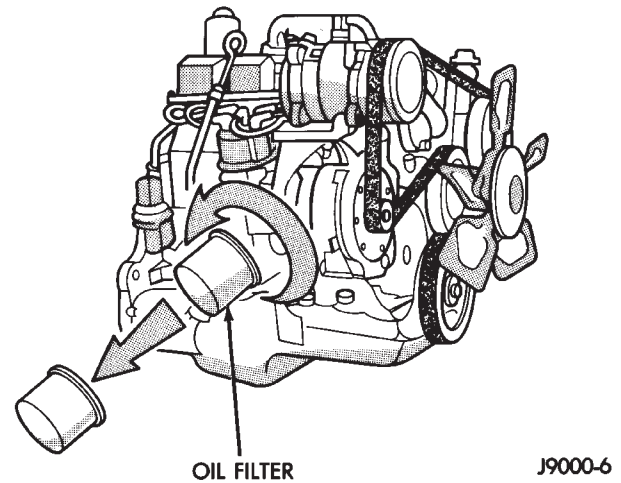
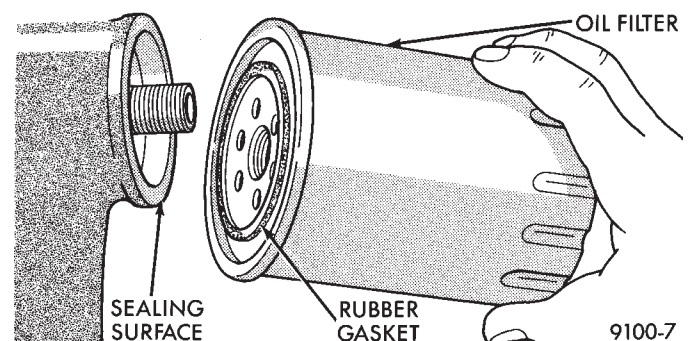

Fig. 6 Oil Filter—2.5L Engine
Fig. 8 Oil Filter Sealing Surface—Typical
- (1) Position a drain pan under the oil filter.
- (2) Using a suitable oil filter wrench loosen filter.
- (3) Rotate the oil filter counterclockwise to remove it from the cylinder block oil filter boss (Fig. 6 and 7).
- (4) When filter separates from adapter nipple, tip gasket end upward to minimize oil spill. Remove filter from vehicle.
- (5) With a wiping cloth, clean the gasket sealing surface (Fig. 8) of oil and grime.
- (1) Lightly lubricate oil filter gasket with engine oil or chassis grease.
- (2) Thread filter onto adapter nipple. When gasket makes contact with sealing surface, (Fig. 8) hand tighten filter one full turn, do not over tighten.
- (3) Add oil, verify crankcase oil level and start engine. Inspect for oil leaks.